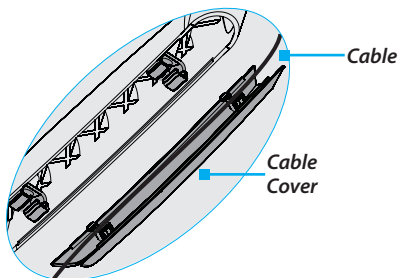

Figure 19
5. Run the cables along the inside of the **Cable Cover** that you removed from the bottom portion of the **Spring Arm**. (*Figure 19*)